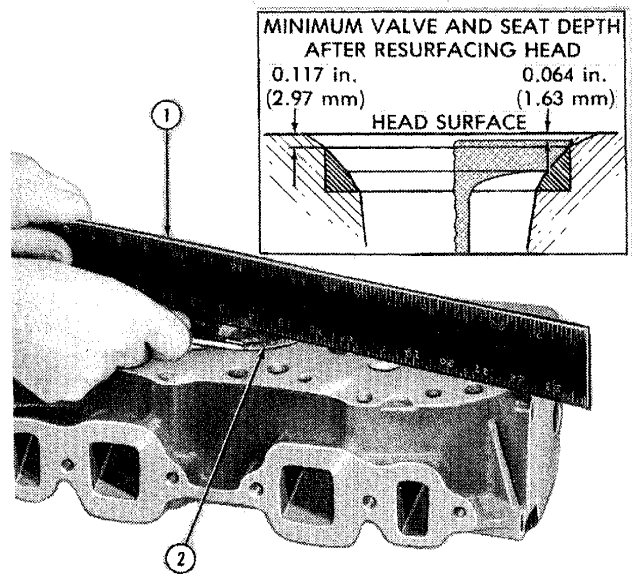

**Figure 12**
3. Use a straight edge and feeler gauge to check the flatness of the cylinder head in all directions, Figure 12. For flatness requirement see "Specifications" — Chapter 3.
**NOTE:** If the cylinder head does not meet the flatness specification, it may be resurfaced providing the depth from head face to valve seat and valve head is not less than the minimums shown in Figure 12.